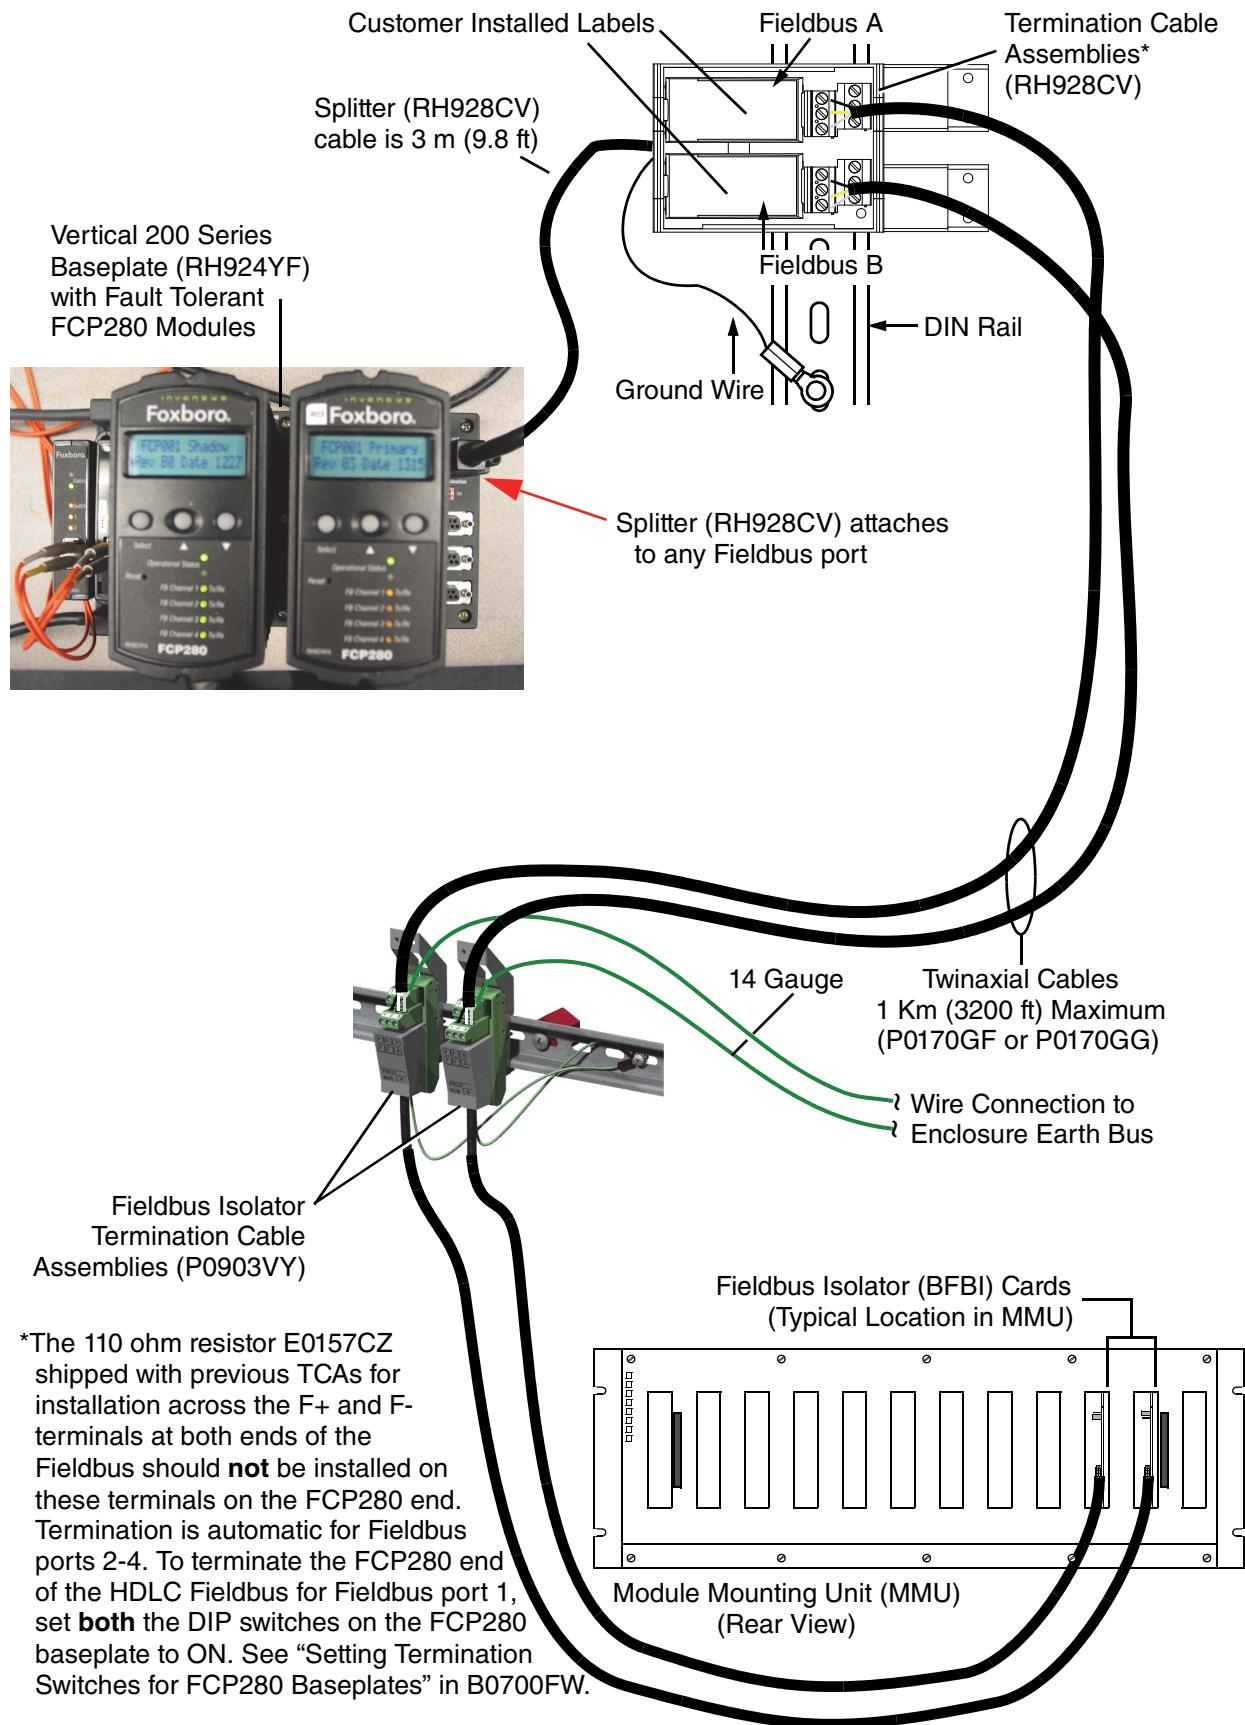

Figure 2-23. Cabling Fieldbus Isolator Cards to an FCP280 Baseplate
Cabling an FCP280 baseplate to the BFBI Fieldbus Isolators consists of extending the remote 268 Kbps fieldbus from the isolators (see Figure 2-23). This extension, used between enclosures, involves the use of termination cable assemblies (TCAs) and twinaxial cable to provide cable connections between primary and extended fieldbus segments, for a maximum fieldbus length of 1 Km (3200 ft). If the fieldbus is non-redundant, only one TCA is connected to the FCP280 baseplate.
2. Connect the splitter (RH928CV) to the appropriate port on the FCP280 baseplate. The splitter includes both a plug for the Fieldbus port and the TCA termination block which you installed in the previous step (see Figure 2-23). Refer to “Fieldbus Splitter (RH928CV)” in *Standard and Compact 200 Series Subsystem User’s Guide* (B0400FA) for instructions on how to make this connection.
Finish making the cable connection(s) to the fieldbus splitter/terminator or fieldbus splitter as shown in Figure 2-23.
- ◆ Terminating resistors are used only at the BFBI Fieldbus Isolator TCA end of the bus. Add the terminating resistors (supplied with the termination cable assemblies) to the P0903VY termination cable assemblies as shown in Figure 2-23.